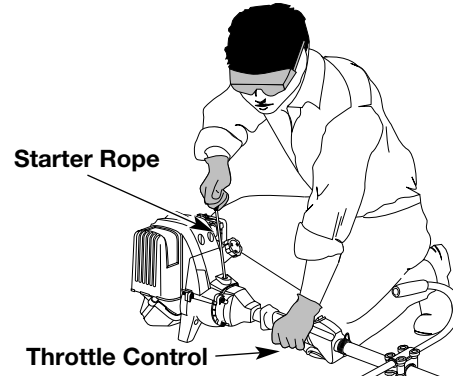

Fig. 23
7. With the unit in the starting position (Fig. 23) pull the starter rope briskly 5 times in the **FULL** choke (A) |←| position. If the engine attempts to run before the fifth pull, proceed to step 8.
5. With the unit in the starting position (Fig. 23), pull the starter rope briskly until the engine starts.
6. When the engine starts, move the choke lever to the **RUN (C)** |↑| position, and run at full throttle for 30 seconds.
1. Release your hand from the throttle control (Fig. 23). Allow the engine to idle.